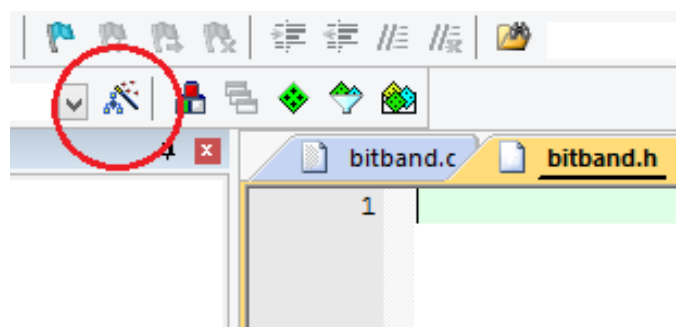

Figure 7
9. Click on the  icon on the top menu as shown in Figure 7. Alternatively, Right Click on SWO Trace, select Options for Target 'SWO Trace'.